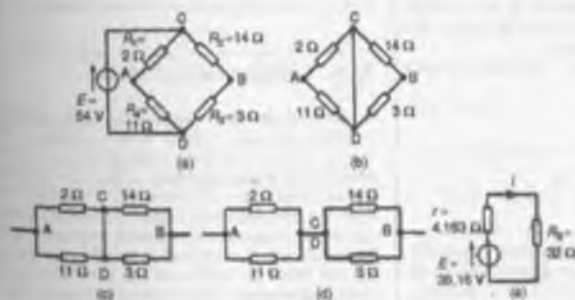

Figure 13.47
- (i) The 32Ω resistor is removed from the circuit as shown in Fig. 13.47(a)
- (iii) Replacing the source of e.m.f. with a short-circuit (i.e. zero internal resistance) gives the circuit shown in Fig. 13.47(b). The circuit is redrawn and simplified as shown in Fig. 13.47(c) and (d), from which the resistance between terminals A and B,
- (iv) The equivalent Thévenin's circuit is shown in Fig. 13.47(e), from which, current